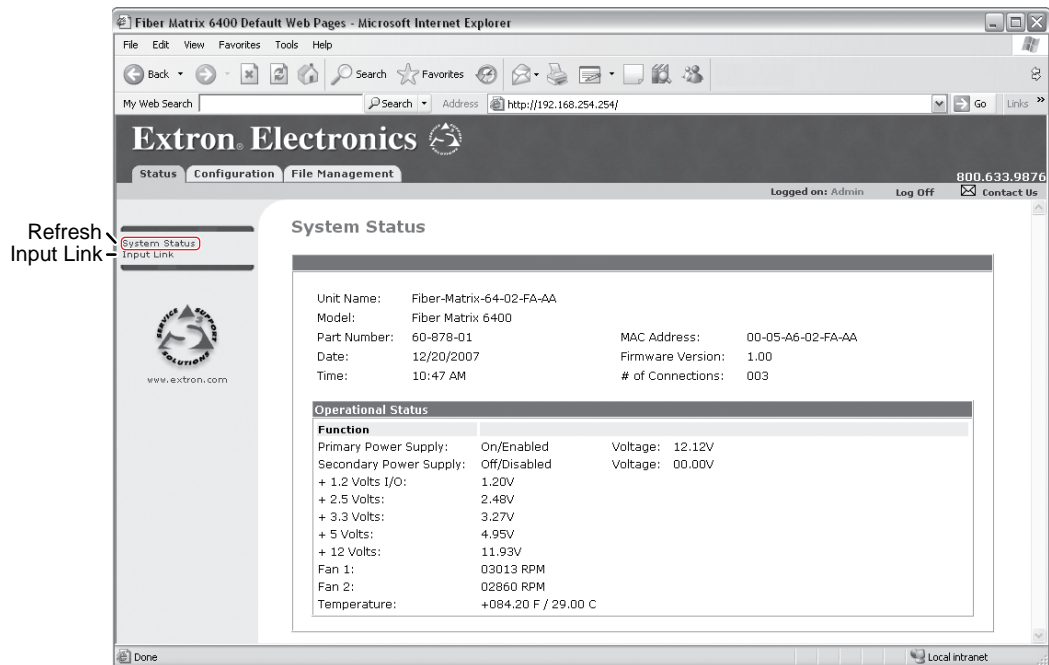

Figure 6-2 — System Status page
- c. **If neither of the above conditions is true**, the switcher downloads the factory-installed default startup page, "nortxe_index.html" (figure 6-2), also known as the System Status page.
The System Status page (figure 6-2) provides an overall view of the status of the matrix switcher, including individual voltages, and the serial port status (if applicable). The System Status page is the default page that the switcher downloads when you connect to the switcher. Access the System Status page from other pages by clicking the **Status** tab.